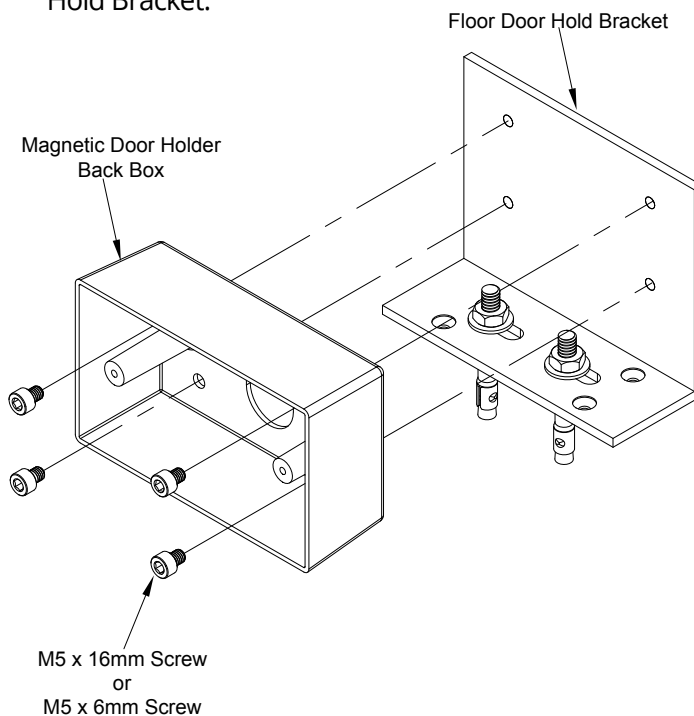

Figure 4.5 Back Cover Installation
10. Align the Magnetic Door Holder back box with the four (4) threaded M5 holes on the Floor Door Hold Bracket and let the connecting wires pass through the center hole. (Figure 4.5)
11. Fasten the Magnetic Door Holder back box to the Floor Door Hold Bracket with the four (4) M5 screws.